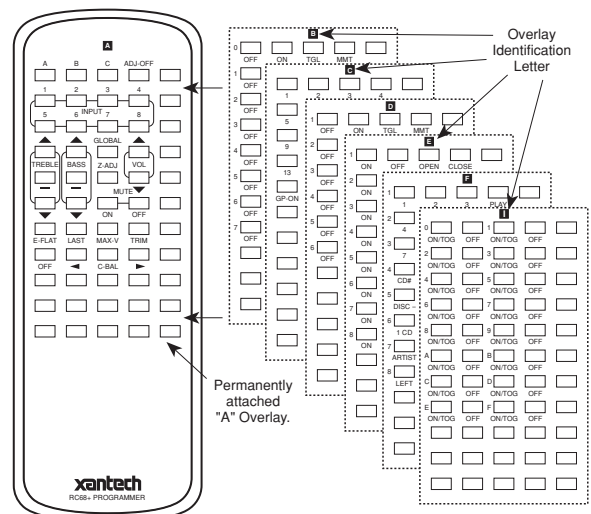

FIG. 2 Overlays for the RC68+ Programmer
- Included with the RC68+ is a set of keypad overlays. These overlays are marked with command names that apply to specific Xantech models. They are provided to make it easier for the installer when setting up the system. See **Fig. 2** and the model listings below.